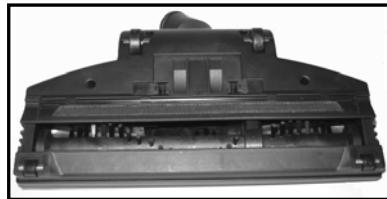

Fig. 13
- Flip the turbo brush over so that the bottom of it is facing upwards. (Fig. 13)